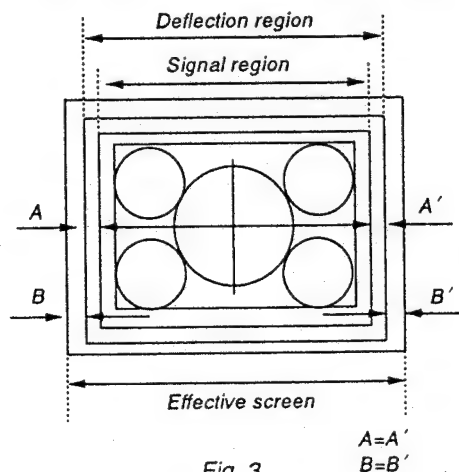

Fig. 3
7. Adjust **60 VIDEO PHASE** so that the signal region comes to the center (A=A') of the deflection region. (Fig. 3)